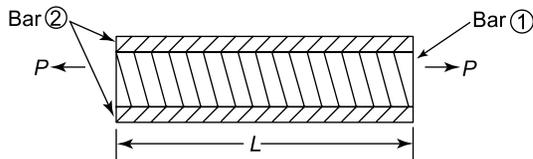

Figure 2.14 Compound bar under axial tension
**Problem 20.** If the solid bar of Problem 19 did not suffer temperature change, but instead was subjected to a tensile axial force  $P$ , as shown in Figure 2.14, determine  $\sigma_1$  and  $\sigma_2$ .